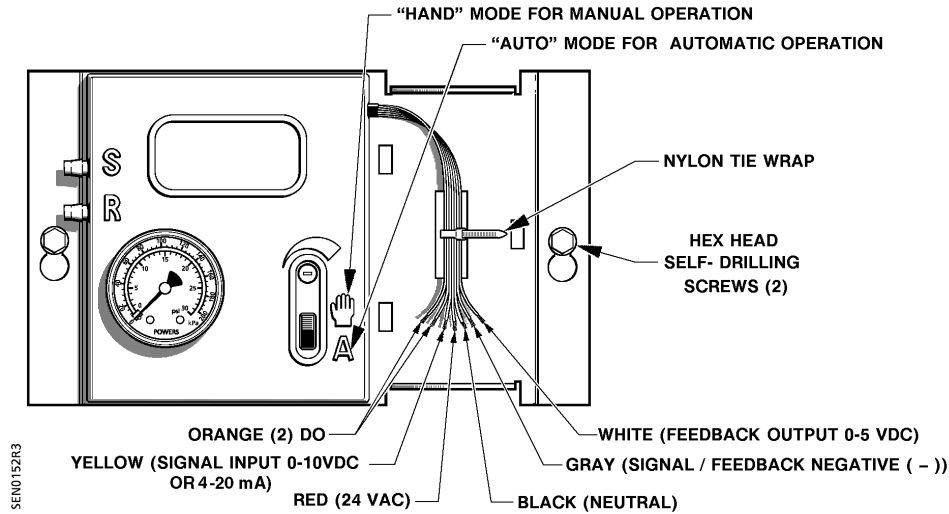
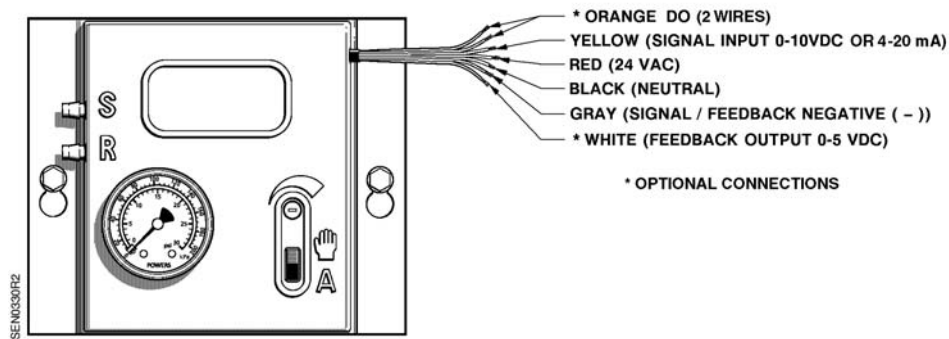

Figure 1. Remote-mount AO-P Transducer Wiring.
Figure 2. Panel-mount AO-P Transducer Wiring.
1. Using the wire nuts provided, connect the field wiring to the transducer wiring. See Table 1, Figure 1, and Figure 2.
- For remote-mount installations, provide strain relief by securing the wiring to the mounting bracket with the tie-wrap provided and reinstall the shroud. See Figure 1.